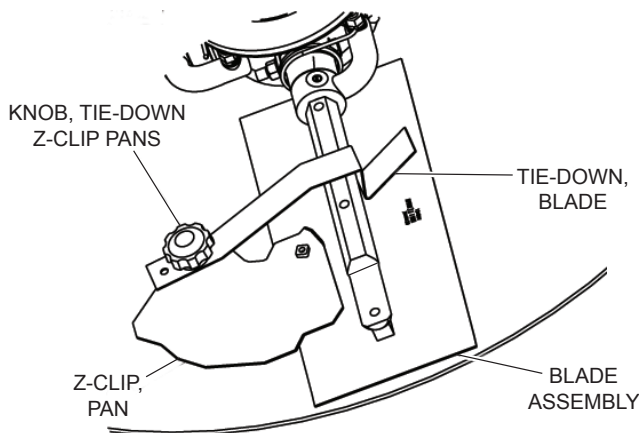

Figure 51. Z-Clip Finisher Pan Installation
Refer to Figure 51 when installing pans onto finisher blades.
3. Attach the blade tie-downs to the far side of the Z-clip brackets with the tie-down knobs as shown in Figure 51.